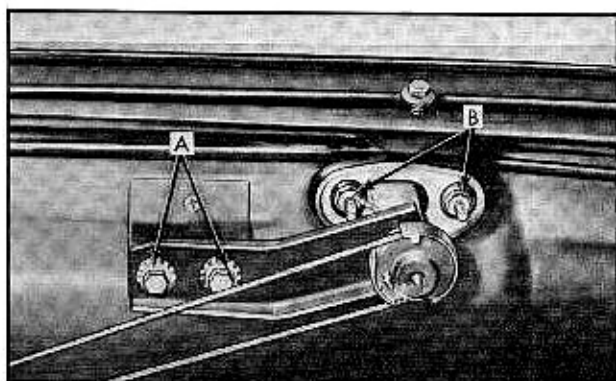

Fig. 3-6 Removal of Windshield Wiper Transmission Support
6. Remove transmission support, retained by bolts "A", shown in Fig. 3-6. Remove rubber gasket and gasket retainer plate nuts "B". Disconnect windshield washer hose, and carefully pull transmission down through duct panel and remove from body.
(7) Windshield Wiper Transmission Installation